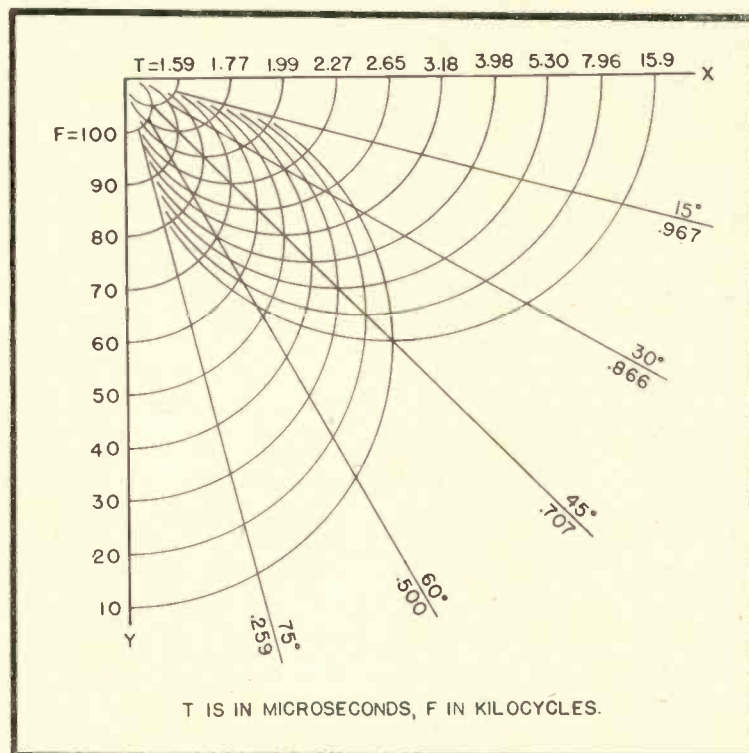

Fig. 3. High-frequency circle diagram.
Figure 3 is a fourth quadrant plot of Eqs. (18) and (21), covering ranges of f (again "constant- f " circles are substituted for the "constant- ω " circles) and T typical for resistance-capacitance-coupled amplifiers. Also shown in Fig. 3 are radial lines indicating relative phase angle and normalized magnitude of the